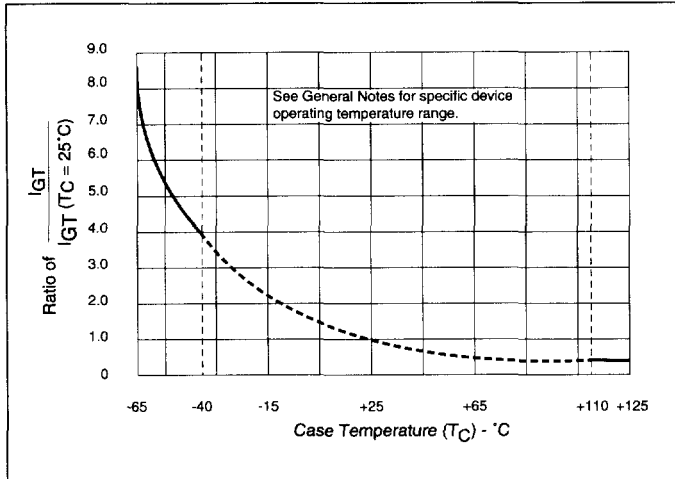

Figure 5.10 Normalized DC Gate-Trigger Current vs Case Temperature
- (2) See Figure 5.10 for I_{GT} vs T_C .